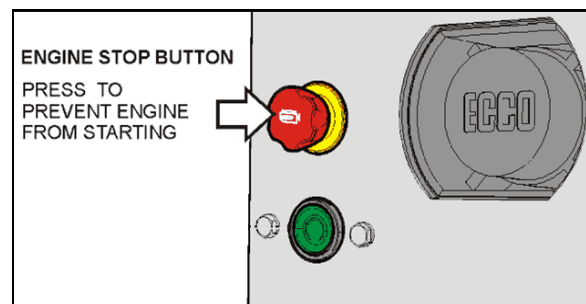

FIGURE 1
1. Press rear engine stop button to prevent engine from starting (Figure 1).